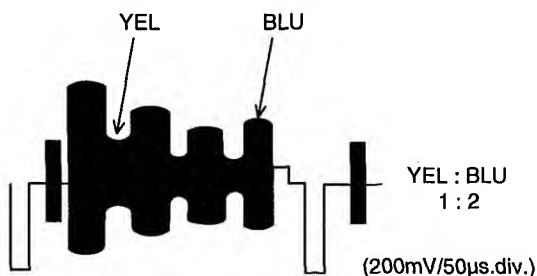

Fig. 3-20
### (3) Matrix Adjustment (Fig. 3-20)